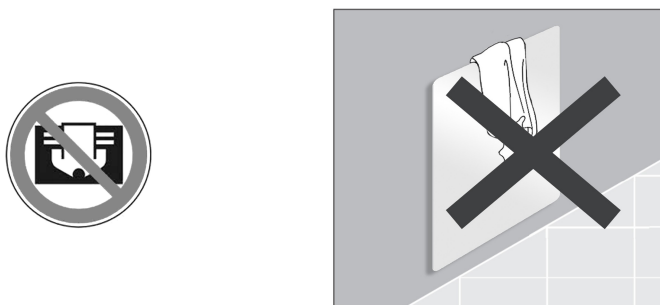

Fig 6
- It is important not to cover the appliance at any time in order to avoid dangerous overheating. **(Fig. 6)**